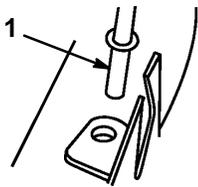

**Figure 36**
4. Place the front corner of the chute baffle into the deck opening. Rotate the chute counterclockwise and push it down into the deck opening (Fig. 36).
4. Place the front corner of the mulch plate baffle into the deck opening (Fig. 36).
5. Rotate the mulch plate counterclockwise and push it down into the deck opening (Fig. 36).